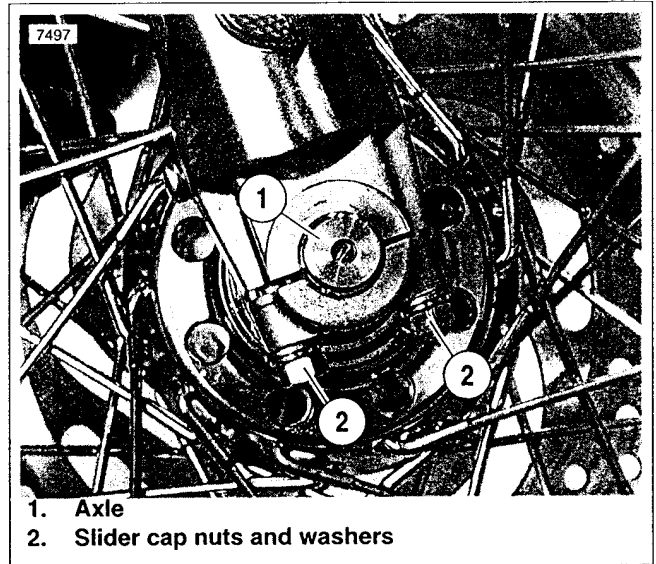

Figure 2-4. Front Wheel Mounting: FXDWG (Right Side)
4. Remove axle nut, lockwasher and washer (3).
- a. See Figure 2-4. For FXDWG models, loosen the slider cap nuts (2) and pull the axle (1) free.